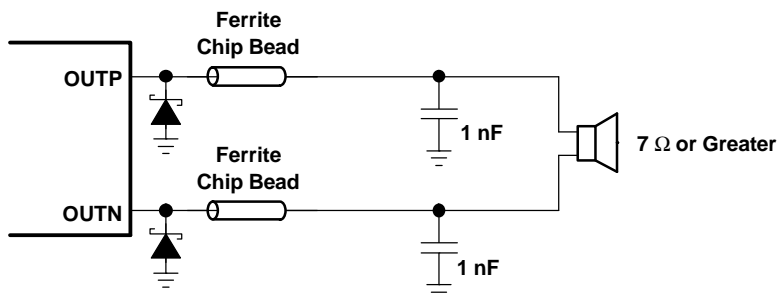
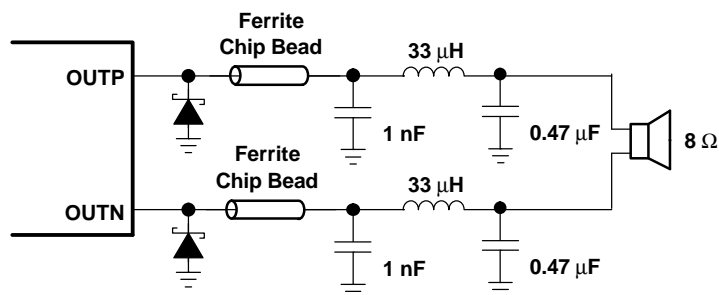

Figure 16. Typical Ferrite Chip Bead Filter (Chip bead example: Fair-Rite 2512067007Y3)
Figure 17. Typical LC Output Filter for 8-Ω Speaker, Cutoff Frequency of 41 kHz
A ferrite bead filter (shown in Figure 16) should be used in order to pass FCC and/or CE radiated emissions specifications and if a frequency sensitive circuit operating higher than 1 MHz is nearby. The ferrite filter reduces EMI around 1 MHz and higher (FCC and CE only test radiated emissions greater than 30 MHz). When selecting a ferrite bead, choose one with high impedance at high frequencies, but very low impedance at low frequencies.
Use an additional LC output filter if there are low frequency (<1 MHz) EMI sensitive circuits and/or there are long wires (greater than 11 inches) from the amplifier to the speaker, as shown in Figure 17.
- Output filter — The ferrite filter (Figure 16) should be placed as close to the output terminals (pins 10, 11, 14, and 15) as possible for the best EMI performance. The LC filter (Figure 17) should be placed close to the ferrite filter. The capacitors used in both the ferrite and LC filters should be grounded to power ground.